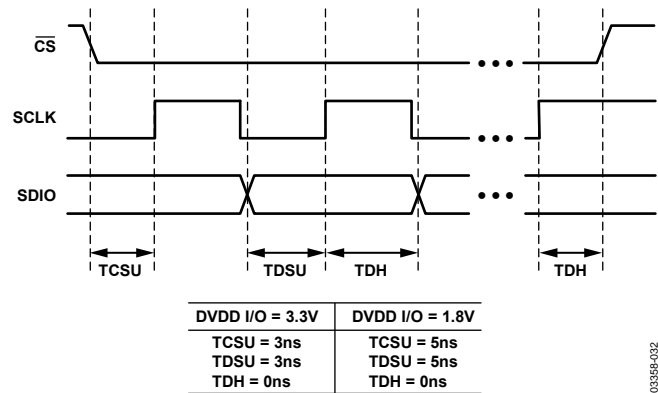

Figure 27. Serial Port I/O Setup (TCSU, TDSU) and Hold (TDH) Times
**$\overline{CS}$** —Chip Select Bar.  $\overline{CS}$  is active low input that allows more than one device on the same serial communication line. The SDO pin and SDIO pin go to a high impedance state when this input is high. If driven high during any communication cycle, the cycle is suspended until  $\overline{CS}$  is reactivated low. Chip select can be tied low in systems that maintain control of SCLK. When toggling  $\overline{CS}$ , it is important that care is taken to meet the clock setup time with respect to the falling edge of  $\overline{CS}$  and TCSU (see Figure 27).
**SDIO**—Serial Data I/O. Data is always written into the AD9952 on this pin. However, this pin can be used as a bidirectional data line. Bit 9 of Register 0x00 controls the configuration of this pin. The default is Logic 0, which configures the SDIO pin as bidirectional. In order to guarantee proper serial I/O port operation (see Figure 27), data on this pin must be set up and held to the rising edge of SCLK on read operations.